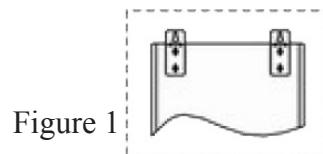

Figure 1
1. Locate an optimal location to place the range hood. Mark the leveling points for two Body Hooks (Figure 1) on the wall and drill two holes with diameter not exceeding 5/8". Insert two toggle bolts then fasten two 4mm x 16mm Tapping Screws, reserve approximately 1/8" for the body hooks. Be sure to use appropriate anchors for your wall.